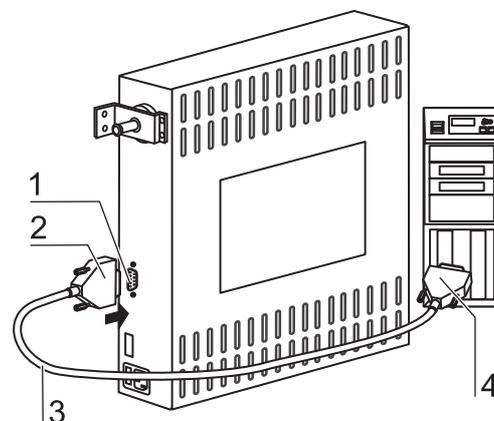

Fig. 16
2. **Fig. 16:** Connect the connector [2] of the serial interface cable [3] (not comprised in the scope of delivery) to the socket [1] at the supply interface at the rear of the device.